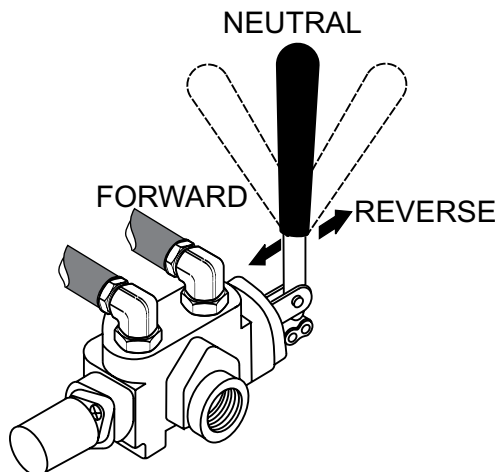

Figure 10. Travel Control Lever
2. Place the travel control lever (Figure 10) in the **NEUTRAL** position.